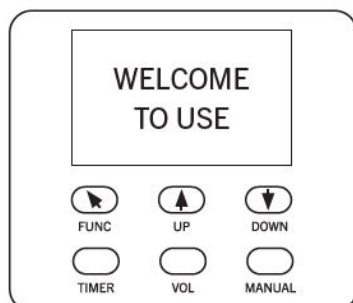

Fig. 1
1. **Fig. 1** will appear on display.